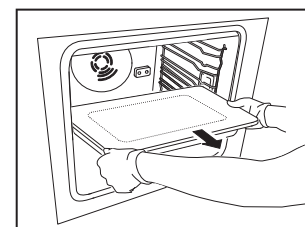

Fig. 4
2. With both hands, remove the induction plate and store it away, carefully avoiding impacts that could damage the glass or electrical plug (Fig. 4).